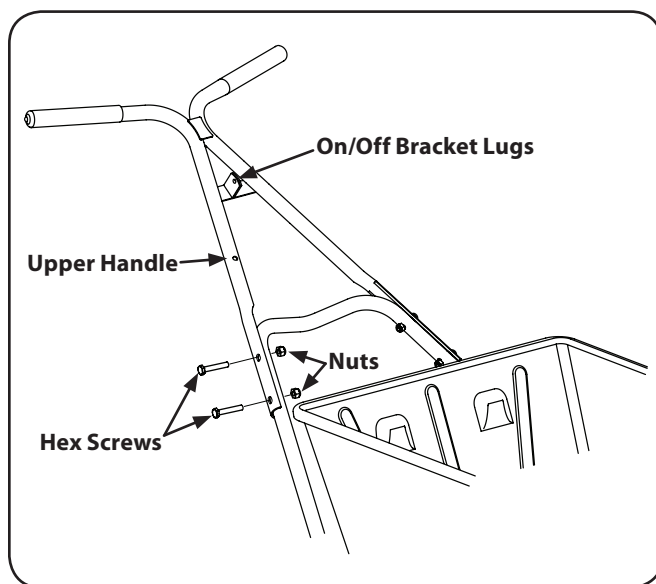

Figure 3-5
3. Attach the upper handle to the lower handle (with the On/Off bracket lugs facing up) using four hex screws ($\frac{1}{4}$ -20 x 1- $\frac{1}{2}$) and four nuts ($\frac{1}{4}$ -20). See Fig. 3-5.